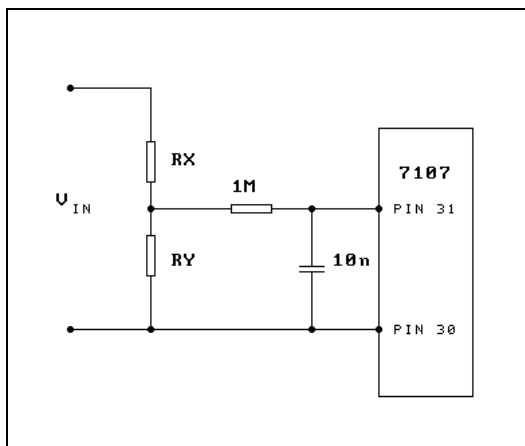

Figure 2
**Current Measurement.** Currents up to 2A can be easily measured using the space on the board for a 5W shunt resistor, R. The current is converted into a voltage by the shunt resistor. The voltage divider resistors  $R_X$  and  $R_Y$  (including  $R_{Y1}$ ) are not used. The principal is shown in Figure 2 below.